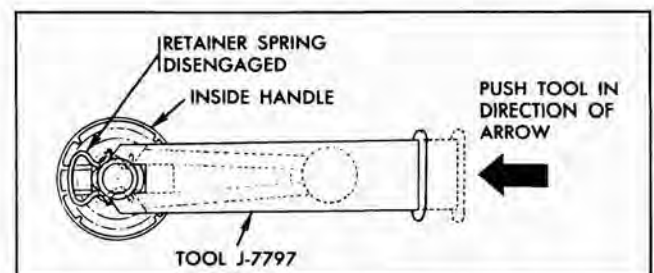

Fig. 13-1 Removing Retaining Spring
2. Push handle retaining spring out of engagement and remove handle and bearing plate from door (Fig. 13-1).